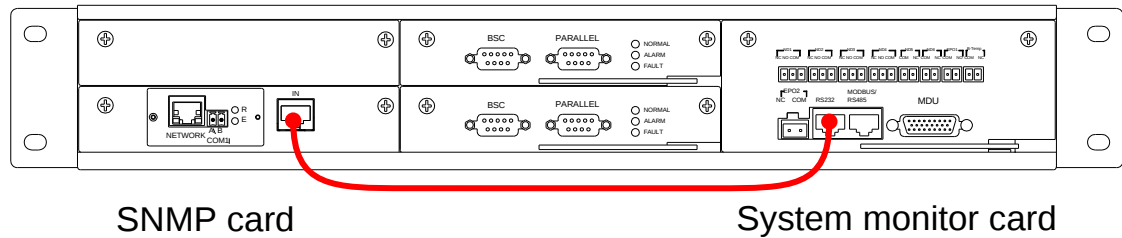

Figure3-16 SNMP card connection diagram
- Step 3 Connect the IN port of SNMP card with the RS232 port of system monitor card through the equipped with network wire, as shown in Figure3-16.